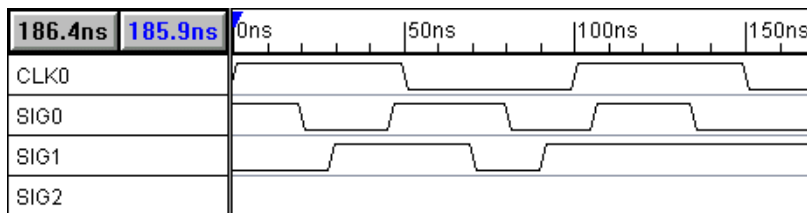

Figure 1.1: Timing diagram used for the basic HDL Simulation tutorial.
3. Draw the waveforms for signals SIG0 and SIG1 so that they resemble the signals in Figure 1.1. These will be the input signals for our simulation.